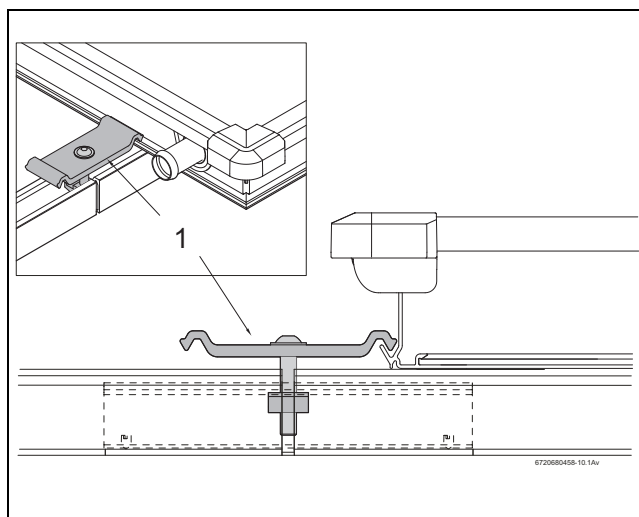

Fig. 40 Fitting the central collector tensioner
- Place the collector tensioner with the attached nut in the aperture of the profile rail and joiner (Fig. 40, [1]) in such a way that it surrounds the profile rail.